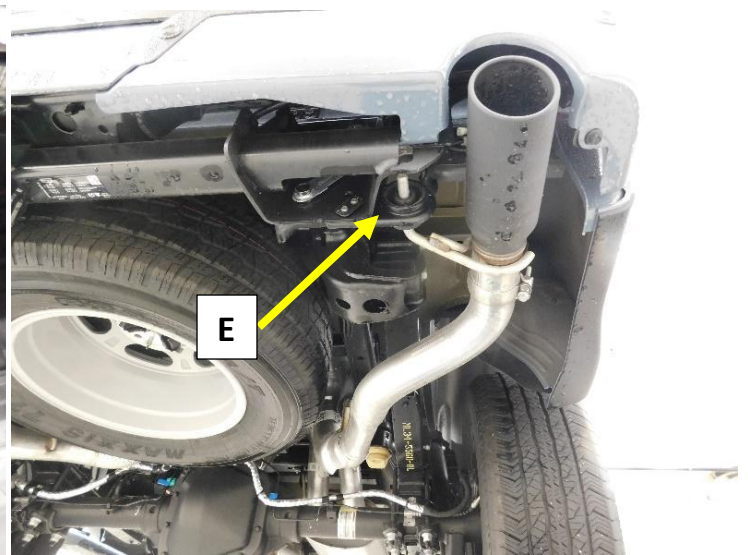

Figure.9
7. Install the tailpipe extension hanger on to the rear tail pipe hanger rod (**E**) , Align the bolt holes and mounting stud plate and install the M6 nuts. **Fig.9**